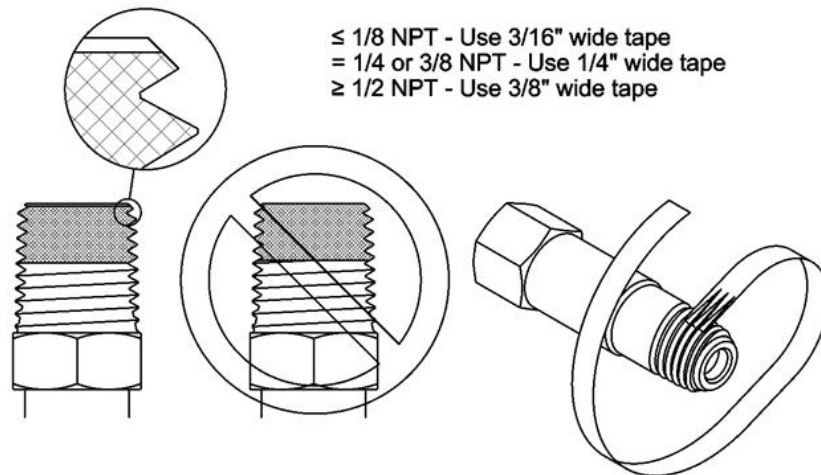

Figure 6 - Pictorial View of Tape Seal
- c. Be sure that all fittings are secure and leak tight. PTFE tape must be used on pipe threads. See Figure 6.
Use an open-end wrench, not a pipe wrench, to install accessories to the AutoSwitch system. **ALWAYS hold the bulkhead fitting with a wrench when installing the accessories to the AutoSwitch system. Do not allow the bulkhead fitting to turn; otherwise, connections inside the box may be loosened.** NPT connections require the use of PTFE tape on the threads to make a gas tight seal. (See Figure 6.) CONCOA uses PTFE tape on all of its NPT connections. Follow these rules when using PTFE tape.
- Start the PTFE tape on the first thread leaving a slight section of the chamfer exposed as shown in Fig. 6. Make sure the tape does not overlap the end of the fitting.